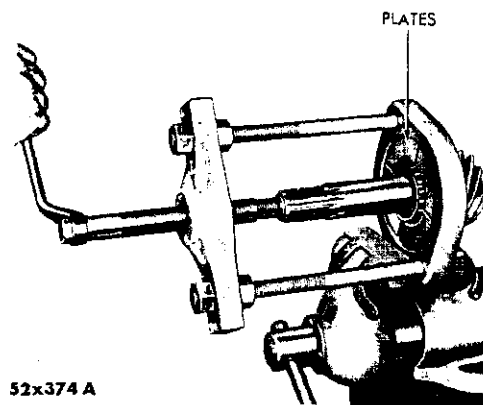

Fig. 12—Removing Bearing From Pinion Shaft
(1) The 1962 Chrysler Newport SC-1 rear axle carriers use different adaptors to remove the pinion rear bearing than the carriers on all other 1962 Chrysler and Imperial Models.
When removing the pinion rear bearing (Fig. 12) on a 1962 Chrysler Newport carrier use Tool C-293 and four (4) No. 36 adaptors. On all other 1962 Chrysler and Imperial Models, use Tool C-293 and four (4) No. 37 adaptors.
(2) The pinion bearing cups can be removed from the carrier with a blunt brass drift and hammer.